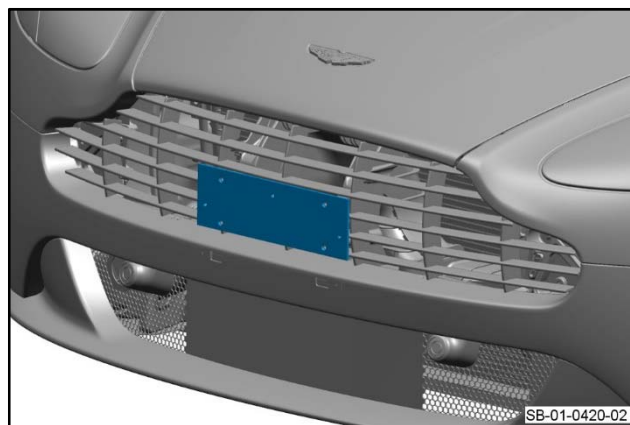

Figure 2
2. Put the bolster plate into position (refer to Figure 2).